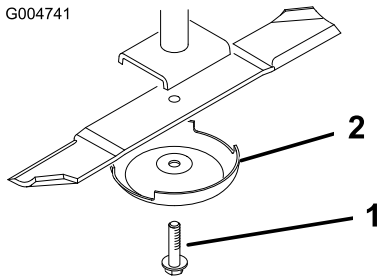

Figure 25
4. Remove the blade bolt, anti-scalp cup, and blade from the spindle shaft (**Figure 25**).